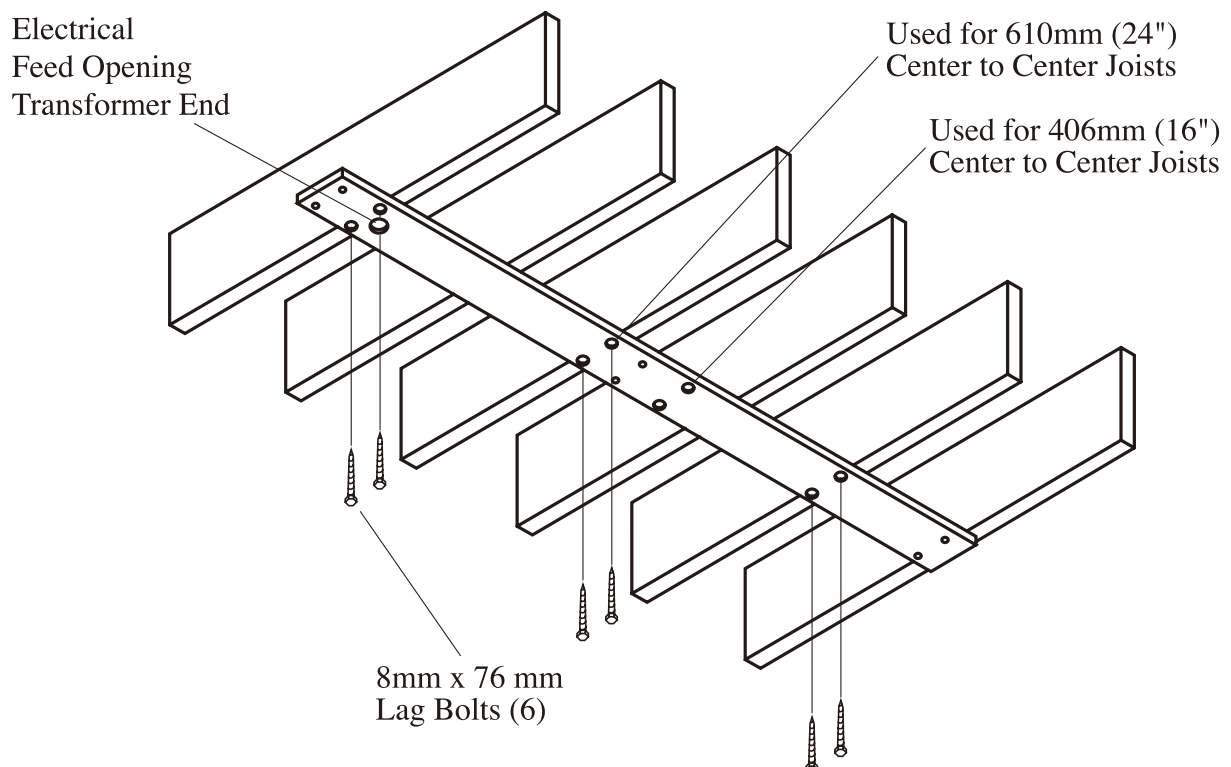

Fig.11
A) In conventional ceilings with joists perpendicular to the center line of the light, attach the pallet by at least 6 (M8 x 76mm) lag screws. Suitable holes are provided in pallet for most installations, utilizing 16" (406 mm) or 24" (610 mm) center to ceiling joists. For other spacings or locations, additional holes can be cut in pallet. (See Fig.11)